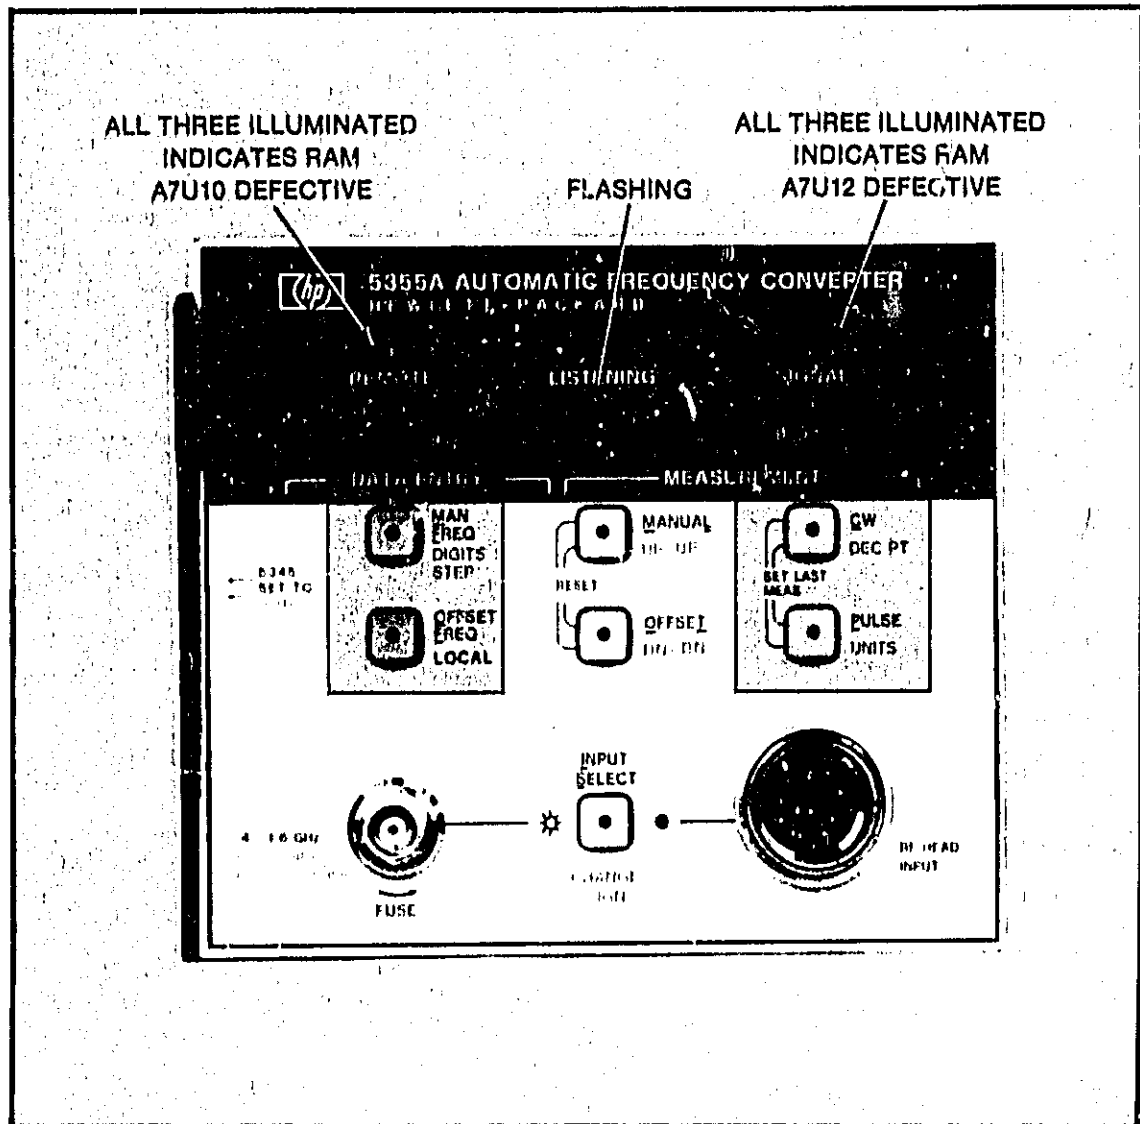

Figure 8-19. RAM Test Error Indicators
(2) 5355A front panel error indicators (RAM test) are shown in *Figure 8-19*.